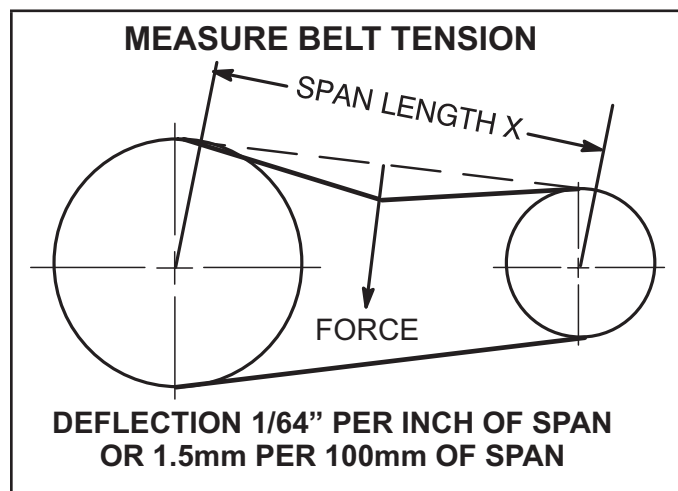

FIGURE 15
- 1 - Measure span length X. See FIGURE 15.
- 2 - Apply perpendicular force to center of span (X) with enough pressure to deflect belt $1/64$ " for every inch of span length or 1.5mm per 100mm of span length.